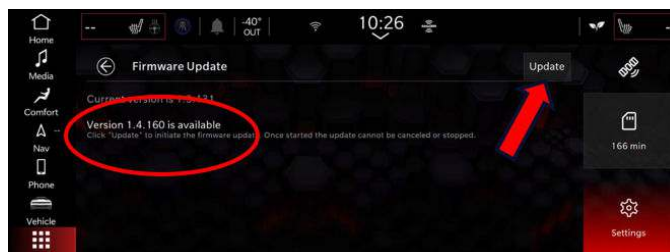

Fig. 14
29. Click the Settings button to open the settings menu Fig. 14.